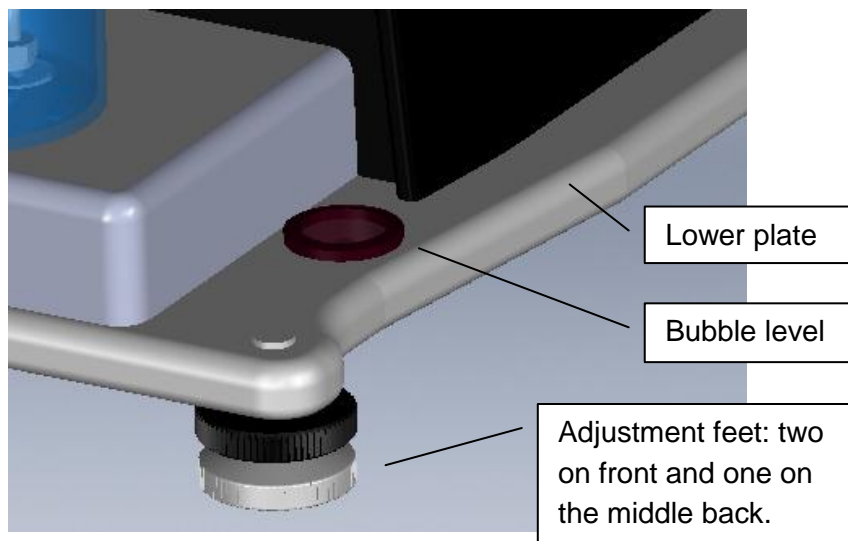

Figure 1: Adjustment and bubble level.
Water profoundly influences product attributes such as quality and safety. To completely understand water relations in a product requires an understanding of the amount of water (moisture content) that can be held at a given energy state (water activity). Moisture sorption isotherms describe the relationship between water activity and moisture content at a constant temperature. The nature of this relationship depends on the interaction between water and other ingredients. The amount of water vapor that can be absorbed by a product depends on its chemical composition, physical-chemical state, and physical structure. Consequently, the isotherm shape is unique to each product type due to differences in capillary, surface, and colligative effects (Figure 1). Products that lie in the low water activity portion of the isotherm are often referred to as dry, those in the range of $0.60 a_w$ to $0.90 a_w$ are intermediate moisture products, and those having water activities higher than 0.90 are high water activity products.
Figure 1. Moisture adsorption isotherms for icing (♦), crème filling (■), cake (▲), wood pulp (◆), granola bar (*), and milk powder (●) showing that the isotherm shape is unique to the product.
1. Place AquaLab VSA on a flat, stable surface. Use the bubble level (Figure 1) and the adjustable feet to level the instrument. The small rubber feet on the back of the lower plate are to prevent tip-over and do not need to be touching the table.